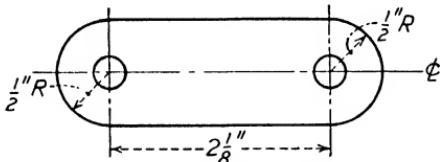

Fig. 133.—Washer plate with 2 holes drilled $5/16$ in. in diameter.
- Make a full-scale drawing of this fitting shown in Fig. 133.